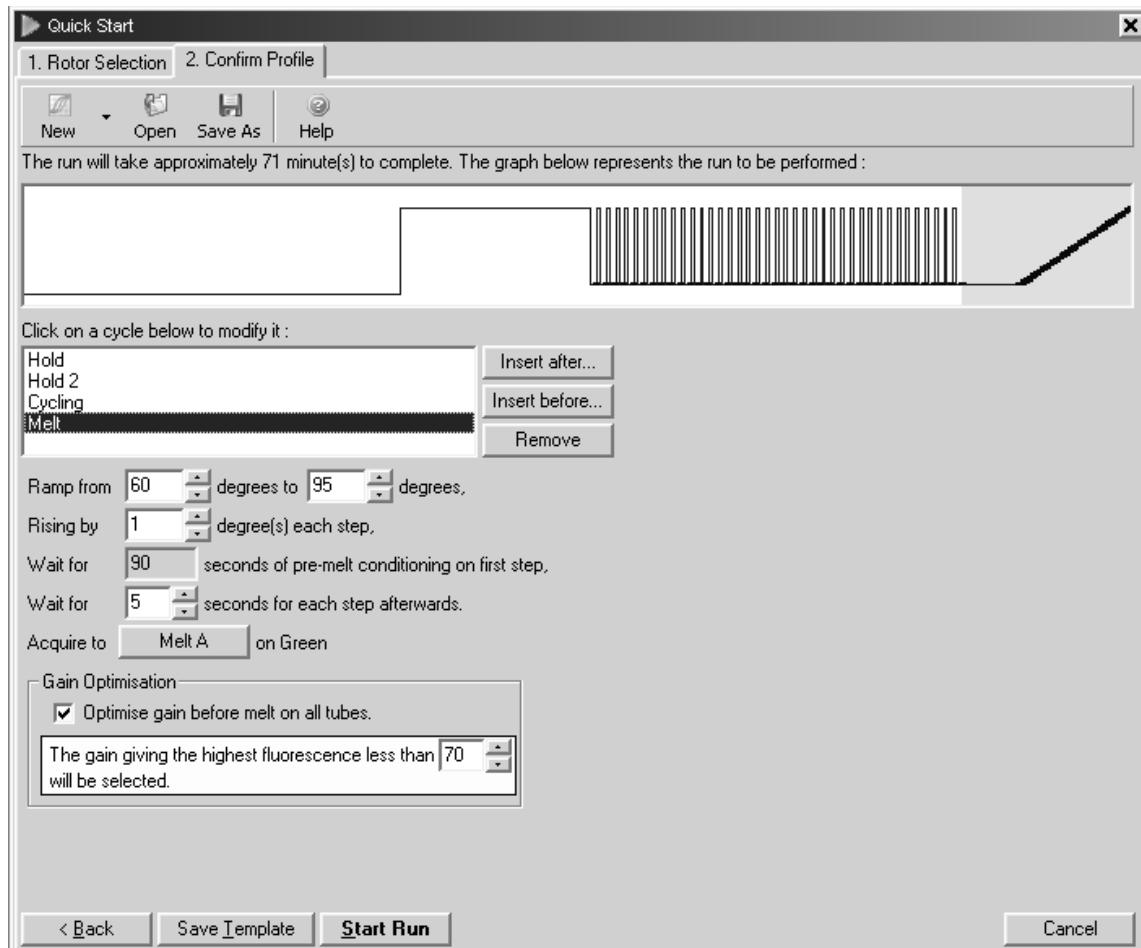

Figure 7. Melting curve analysis. After PCR is completed, melting curve analysis can be performed to check the specificity of the reaction.
7. Optional: Perform melting curve analysis of the RT-PCR product(s) to verify their specificity and identity (see Figure 7, page 24).